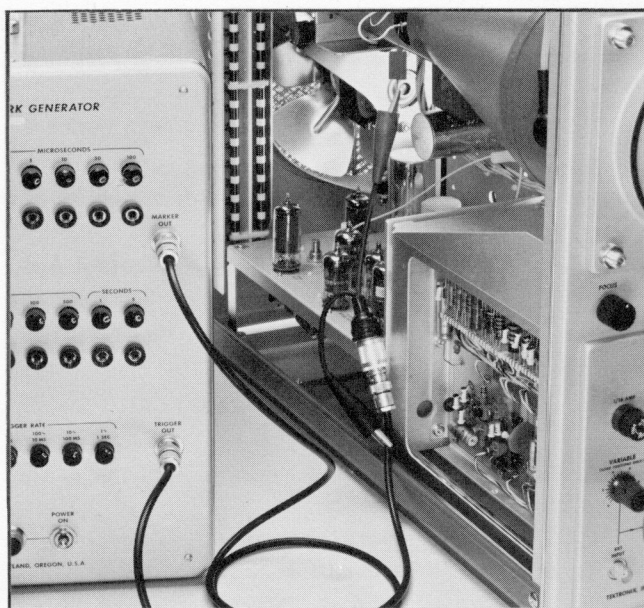

Fig. 6-9. Connecting 50 mc signal to vertical deflection plates.
(1) Connect the output of the Time-Mark generator through a coaxial cable, on adapter (BNC to clip lead, Tektronix No. 013-076) and a small capacitor to the vertical deflection plates (Fig. 6-9).